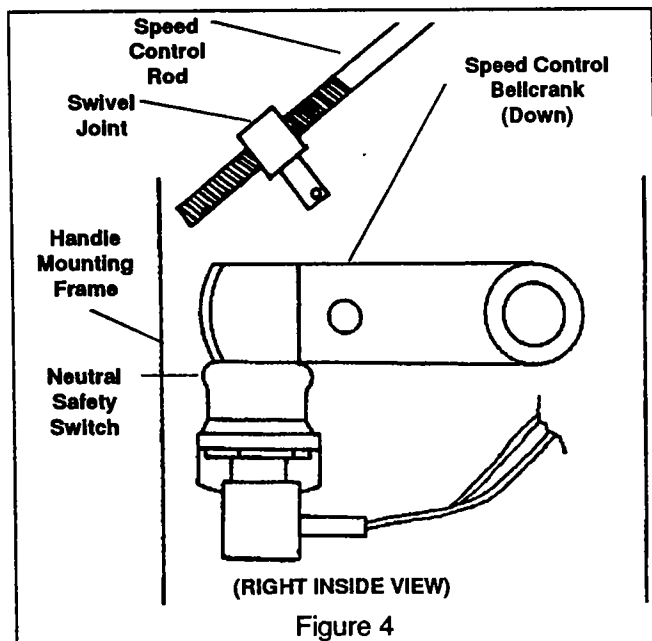

Figure 4
- Insert end of swivel joint through hole in speed control bellcrank and secure with hair pin. Rotate bellcrank forward and down (See figure 4).